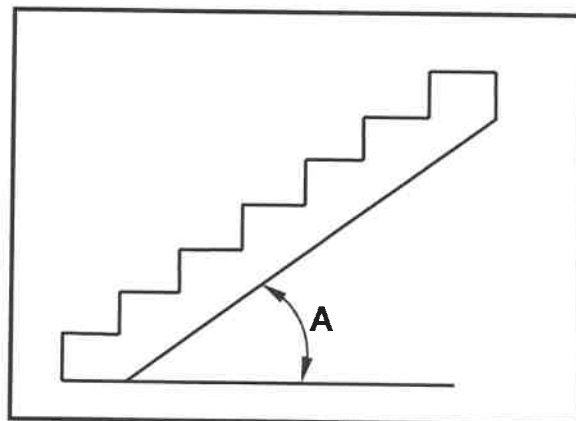

FIGURE 1.2
- 1.2 FIGURE 1.2 below shows an incomplete construction of a staircase.